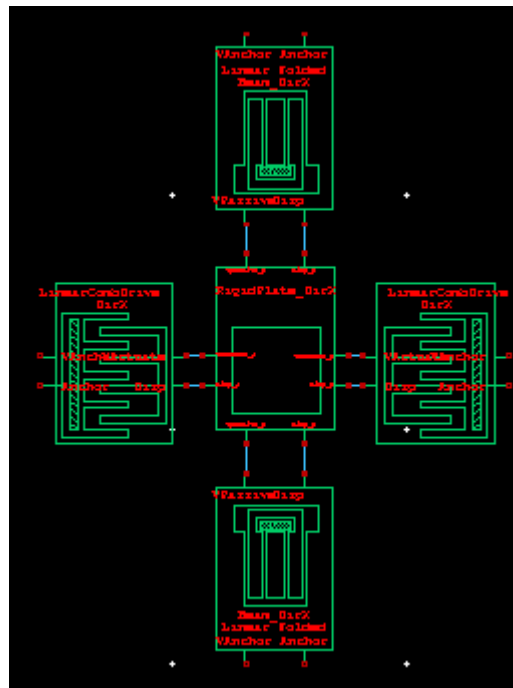

Figure 4: Schematic view of the wired elements
- ☑ Repeat this process to wire the plate with the other components (see Figure 4).